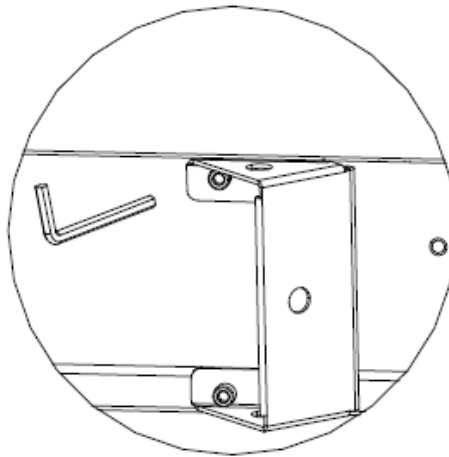

Fig.2.1.4 B View
3) Remove the handles on both sides of UE inverter as Fig.2.1.4 show.